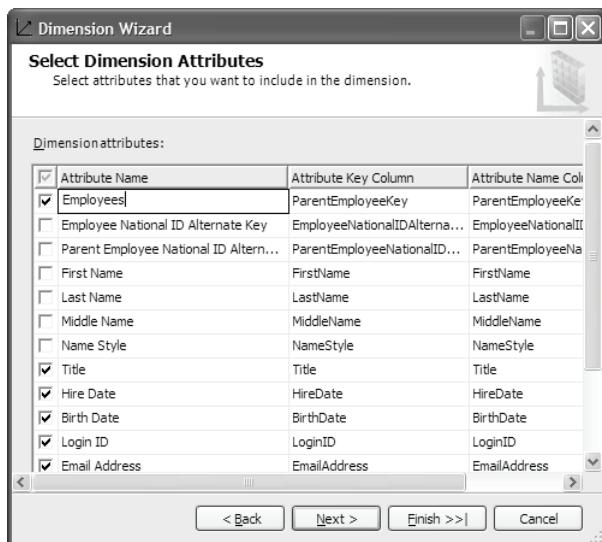

Figure 3.18 In the Select the Main Dimension Table step, you select the dimension table and the dimension key.
7. In the *Select Dimension Attributes* step (Figure 3.18), the Dimension Wizard gives you an option to select the additional columns (other than the dimension keys) that will be promoted to dimension attributes.
8. You can change the attribute names and specify the attribute key and name bindings. In our case, the first row represents the recursive hierarchy, so let's give it a more meaningful name, e.g. **Employees**. In addition, unselect the attributes shown in Figure 3.18 because they are not useful for data analysis.